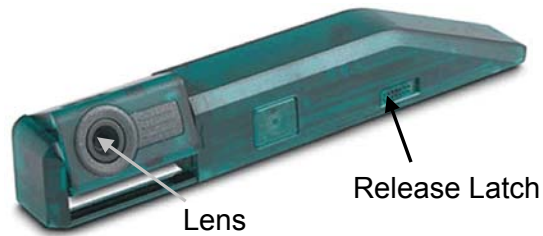

Figure 12-9.- Ultraport Camera.
- 2.5 Release latch to properly secure Ultraport Camera (refer to figure 12-9)
- 2.7 Rotate lens so that lens is directed towards user (refer to figure 12-9)
Move and hold release latch towards angled side of Ultraport Camera and remove Ultraport Camera from PGSC (refer to figure 12-9)